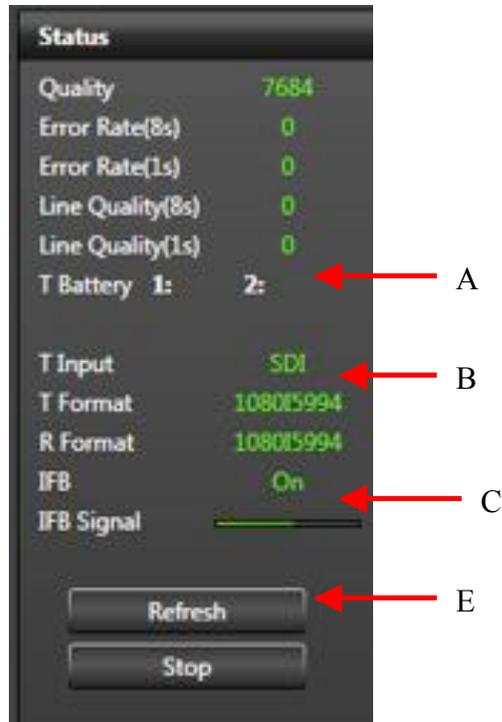

Figure 1
B	Status panel: Displays error rate, line quality, and battery status. See Figure 1
C	Transceiver Information: Displays the input type and format, the output type and format, and IFB status. See Figure 1
D	Refresh button: Resets the video stream. See Figure 1
Arranged vertically on the right hand side of the receiver panel are a number of indicators designed to help an operator make quality and troubleshooting decisions. The status of the transmitter’s batteries (TM8200 only) (A) is also displayed (Figure 1). See troubleshooting section for more information on interpreting these numbers.
Displays input type and input format of the transmitter, which are displayed as T Input and T Format respectively (B) (Figure 1). The output type and output format of the transmitter are shown as R Output and R Format. Lastly, the IFB status is displayed (C).
If the video goes black or pixelates heavily and does not recover automatically within 15 seconds, click the Refresh button (E) to reset the video stream and reestablish the connection (Figure 1).